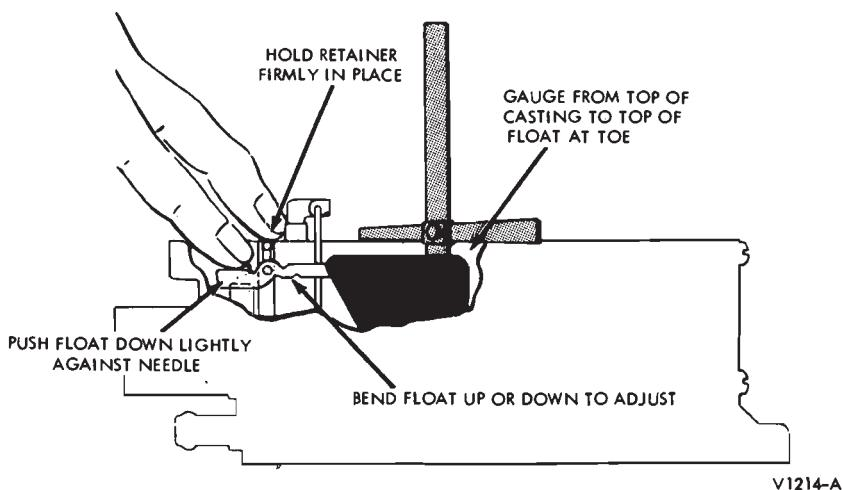

FIG. 15—Adjusting Float Level
3. To adjust, bend the float pontoon up or down at the point shown in Fig. 15.